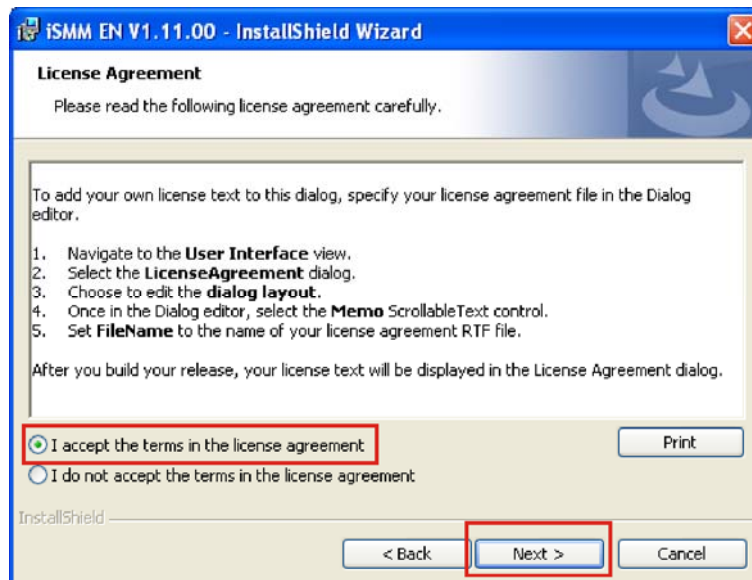

Figure 6-32: iSMM License Agreement
Step 9: The **License Agreement** screen appears. (Figure 6-32)
Step 10: Select "I accept the terms of the license agreement." (Figure 6-32)
Step 11: Click **NEXT** to continue.(Figure 6-32)